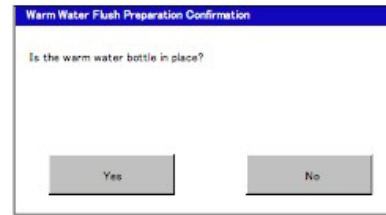

Figure 4-S
- The Warm Water Flush Preparation Confirmation screen displays (Figure 4-S).